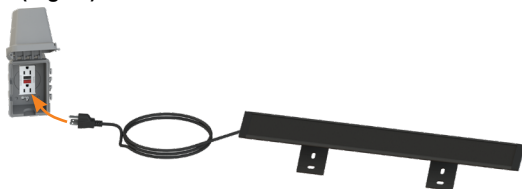

Fig.23
1. Remove the Solar Panel assembly from the box. Plug the solar panel into a wall outlet via the USB-C port to charge while performing the remainder of the installation process (Fig 23).